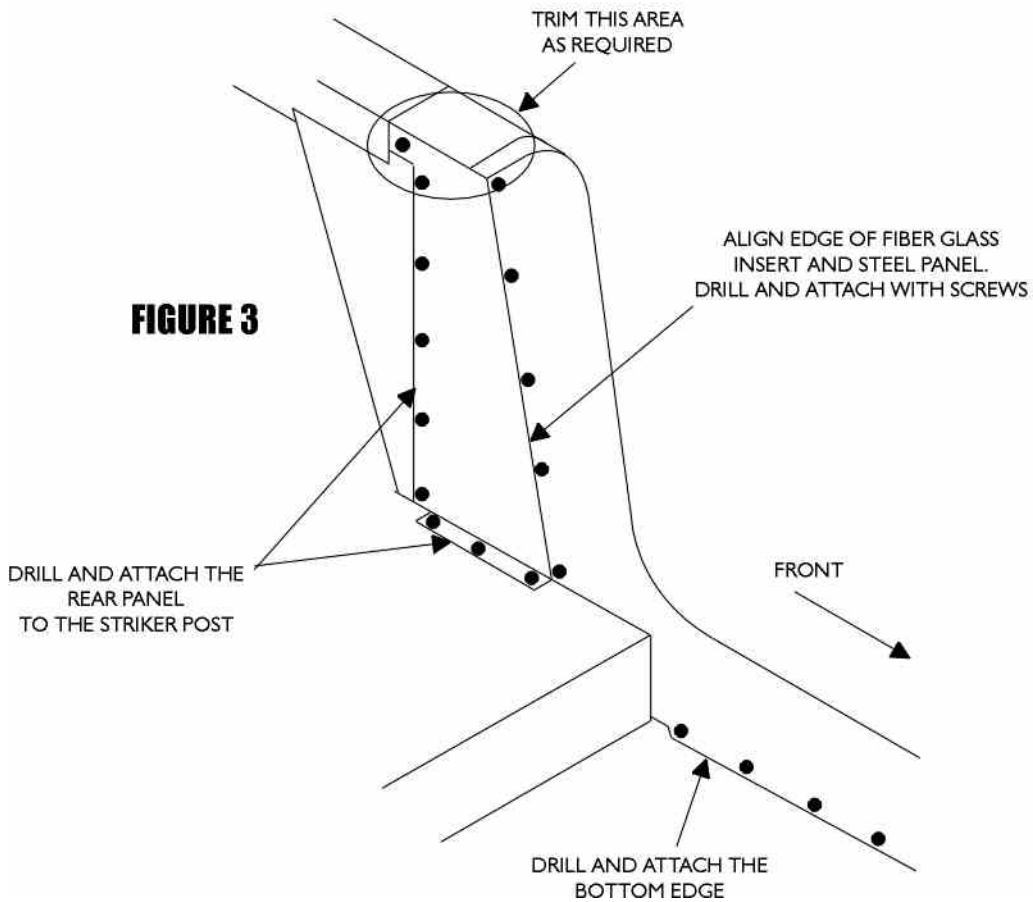

FIGURE 3
14. Position the rear backing plates and mark the location. Trimming the backing plate may be necessary for proper fit. See Figure 3.
15. Secure the rear backing plate using #8 x 1/2" sheet metal screws evenly spaced. See Figure 3.